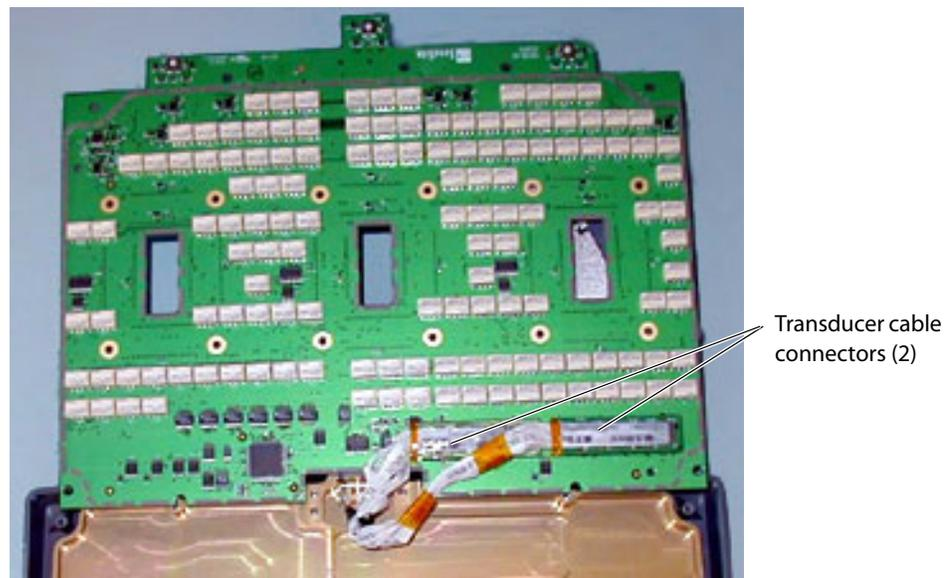

Figure 9.24 Transducer Connector
- 4 Tilt the Main PCBA over per Figure 9.24.
- 5 At this point the transducer can be disconnected from the Main PCBA and the Main PCBA removed from the Triple Transducer Connect. Remove the transducer cable connectors shown in Figure 9.24.